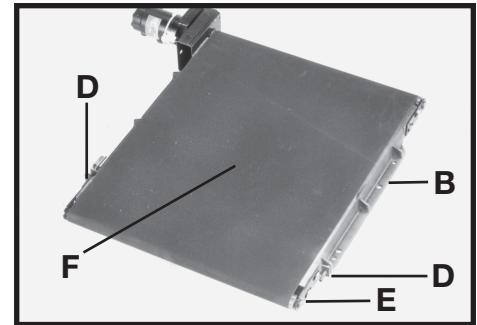
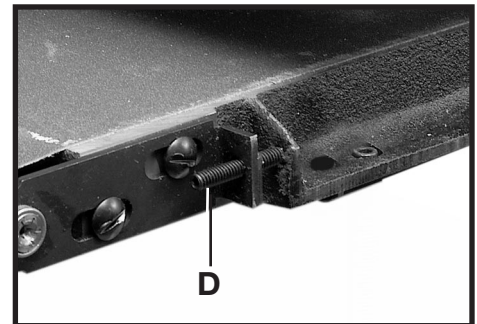
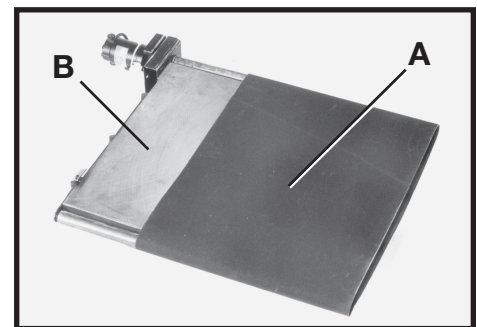

Fig. 33A
Fig. 33B
Fig. 34
4. Loosen the two socket head set screws (D) Fig. 33A and Fig. 33B equally at each side of the table until tension is relieved on roller (E). **NOTE:** Count the number of turns as you loosen the screws.
5. Slide the feed belt (A) Fig. 34, off table (B). Place the new feed belt on the table and re-apply slight tension to the feed belt roller (E) Fig. 33A, by turning two screws (D). Tighten both screws an equal amount until at least one side of the belt starts to get tight. **NOTE:** The number of turns to tighten should be less than the number loosened in **step 4**.
6. Attach the table (F) Fig. 33A, to the support plate and adjust the tension and tracking on the feed belt. Refer to section "**CHECKING AND ADJUSTING TRACKING AND TENSION ON THE FEED BELT**" in this manual.